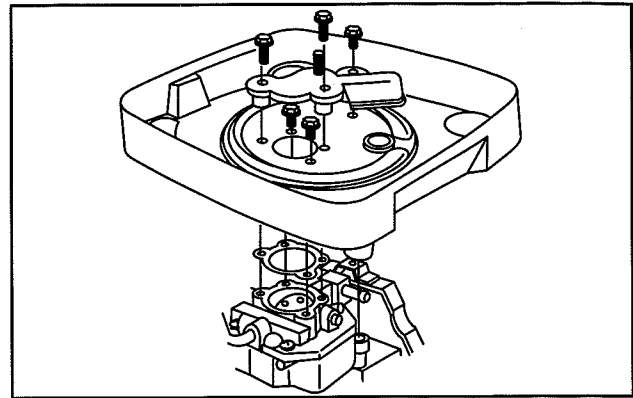

Fig. 120 – Install Air Cleaner Base
3. Install two air cleaner base screws. Do not tighten at this time, Fig. 120.